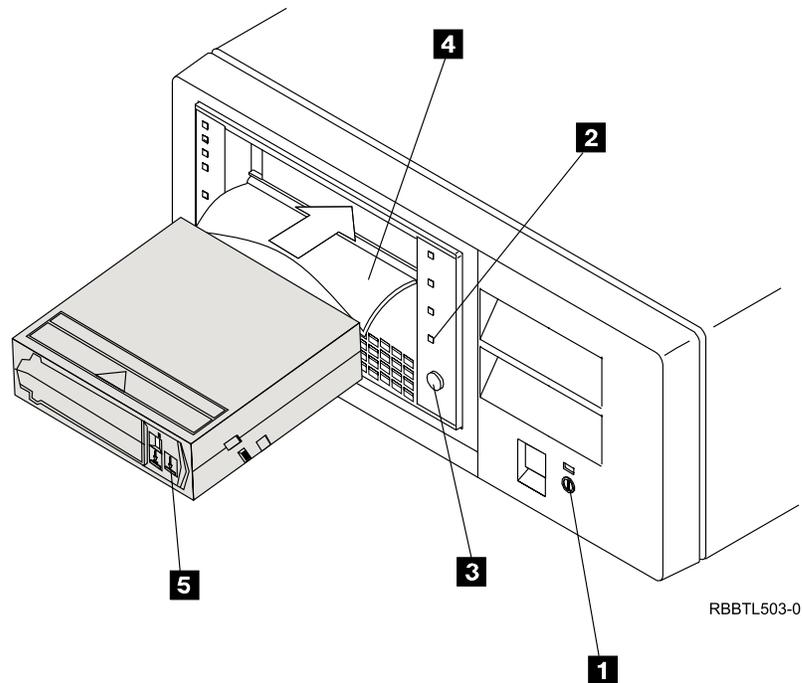

Figure 10. Loading the Cleaning Cartridge
1. When the green Operate Handle light (**2** in Figure 10) comes on, lift the cartridge insert/release handle (**4** in Figure 10) to unload the cartridge.
4. Push down the cartridge insert/release handle (**4** in Figure 10).